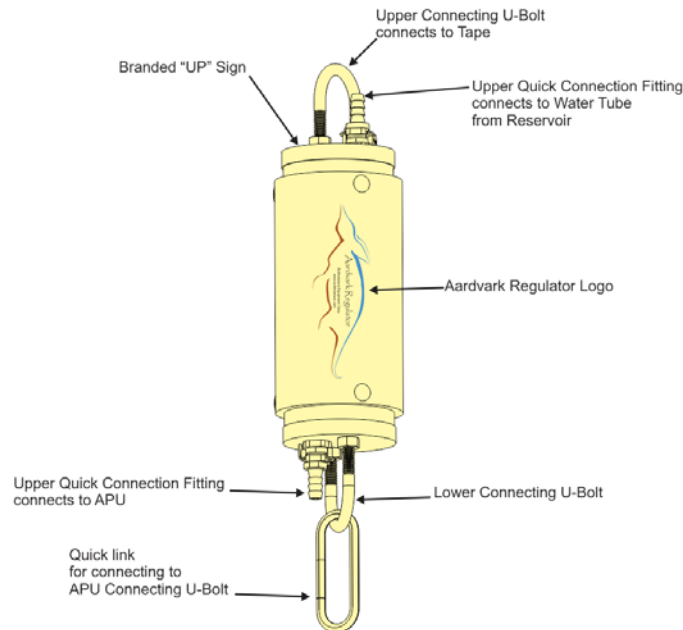

Fig. 6. Aardvark Regulator Unit
The Aardvark is a constant-head permeameter. This means that the depth of water in the borehole ( $h$ ) does not change during the measurement period (Fig. 6). As a result, the measurement conditions remain constant during the measurement period. The rate of water supplied corresponds to soil infiltration rate from the bottom and side surfaces of the testing borehole.
The Aardvark Permeameter estimates soil hydraulic conductivity using the amount of supplied water (determined using  $d$ ) measured at equal time intervals (Fig. 6). This is equivalent to the amount of water that was infiltrated by soil. Soil-water infiltration rate is the amount of percolated water over time which is equivalent to the reservoir flow rate (see equation below).
In these instructions, we refer to “Shallow Measurements” for measurements with a  $D$  (Fig. 6) less than 3.44 m (11.3 ft) using only the Aardvark Permeameter Module (no RU in line). We also refer to “Deep Measurements” - measurements with a  $D$  more than 3.44 m (11.3 ft) using the RU and APM in line.
**Determine parameter D (Fig. 6).** It is the vertical distance between the APM Floating Valve and Reservoir.
**Determine the water head height.** The normal head height for all applications is about 7.5 cm. However, with slight pressure changes in the APM due to the parameter D (Fig. 6), as well as small variations in the borehole, the specific head height can vary slightly from one test to another. While in many applications it is safe to assume that the head height is equal to 7.5 cm, for best accuracy it may be best to measure the actual water level height in the borehole during a test.
**Calculate the parameter D (Fig. 6).** It is the vertical distance between the APM unit and the Reservoir.